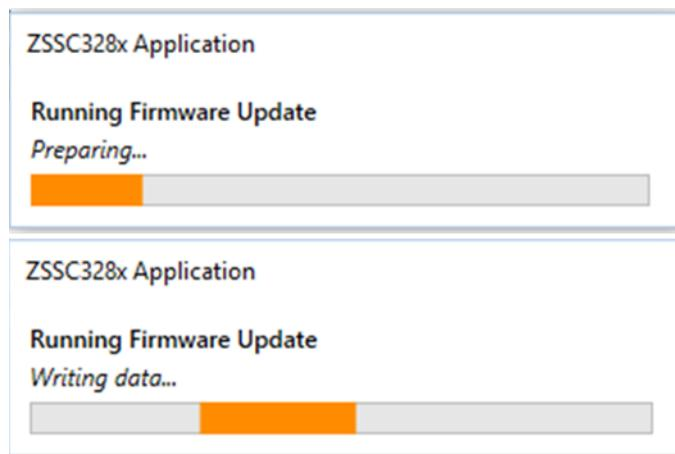

Figure 188. FW Update Operation
2. Click the “Start Firmware Update” button. The ‘ZSSC328x Application’ window pops-up (see Figure 188). The button is enabled if all criteria to perform a FW update is met.